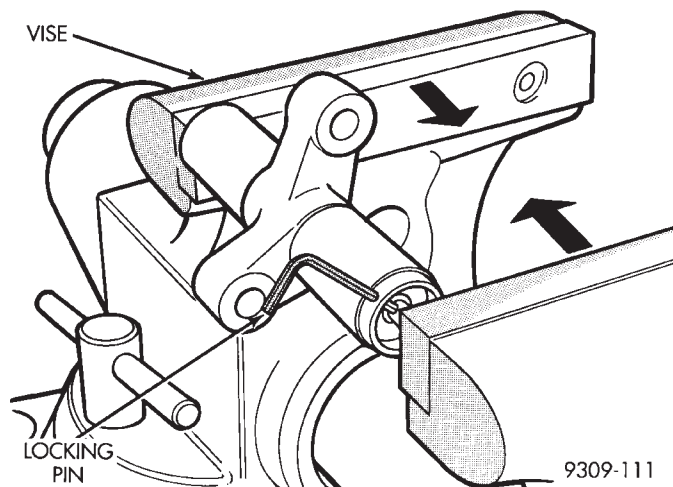

Fig. 51 Compressing Timing Belt Tensioner
(4) Slowly pre-load the tensioner with a vise and install locking pin (Fig. 51).